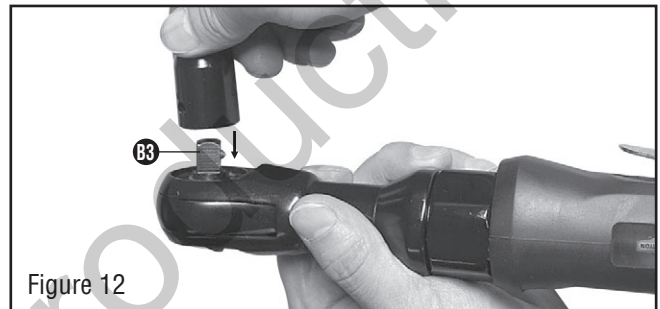

Figure 12
1. Remove the air inlet protective cap from the air inlet (E3). (See Figure 12)
3. Choose the correct impact socket (not provided) as needed and mount it onto the anvil (B3). (See Figure 12)